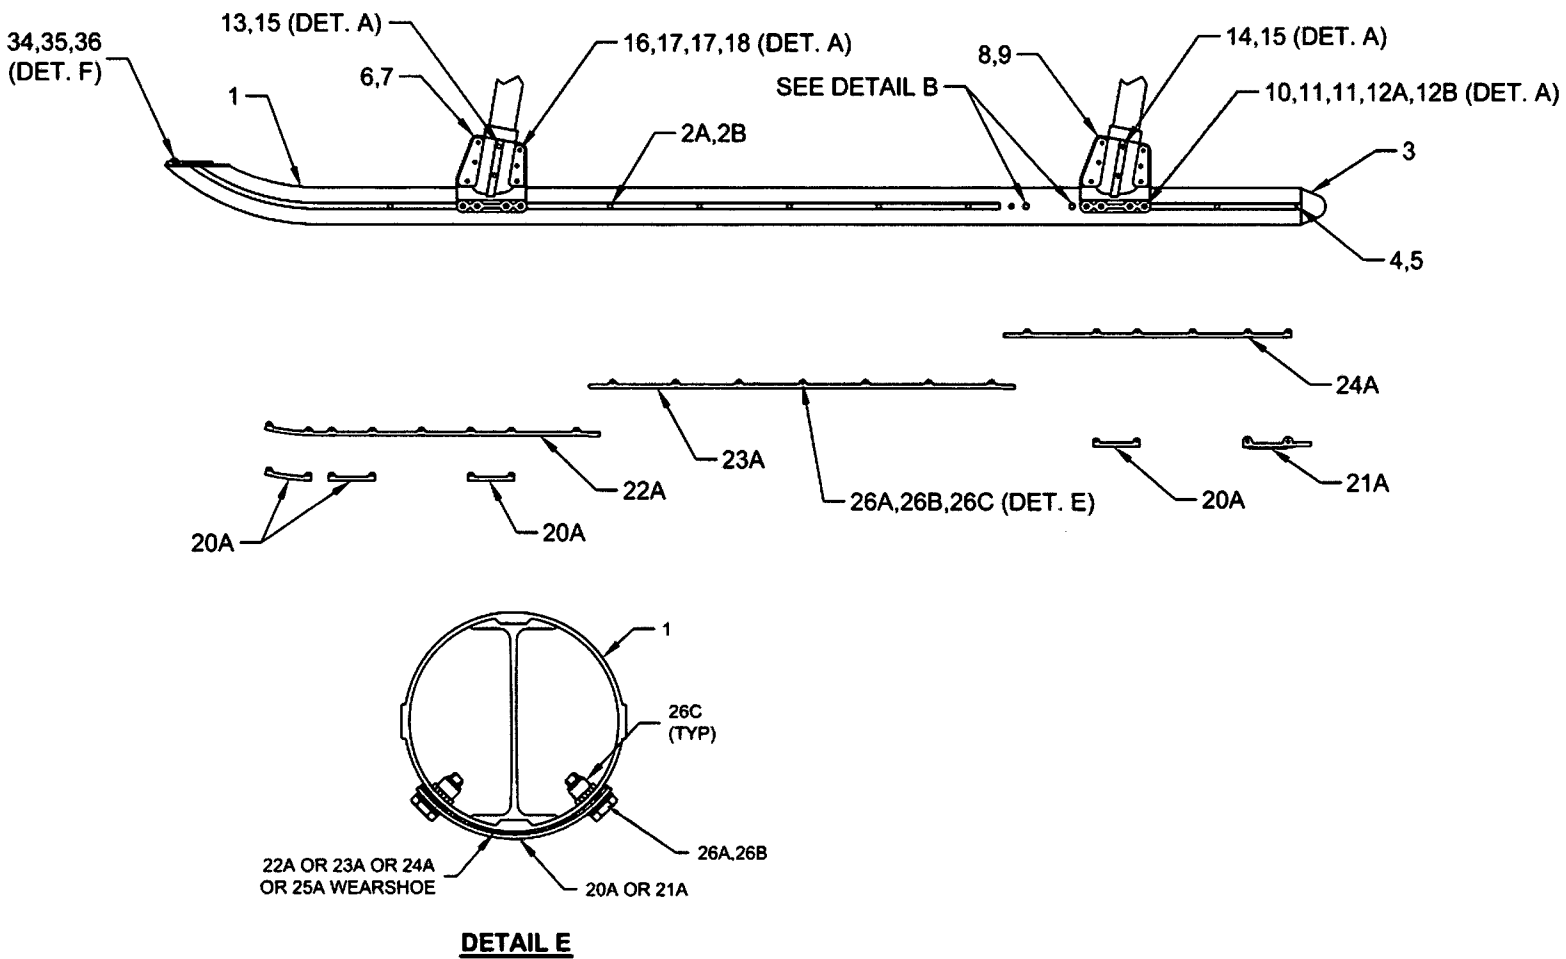

FIGURE 32-2: D206-642-111/-112/-211/-212/-213/-214 SKIDTUBE INSTALLATION
- 32.7.4 Install replacement D4956-11/-13/-15/-21/-23/-25/-31/-33/-35/-37/-39/-41 wearshoes and D3537-1/-3 wearpads using AN3C bolts or MS27039 screws as applicable beginning from the aft end of the skidtube and install towards the fwd end of the skidtube as shown in Figures 32-2, 32-4, 32-6, 32-8 and 32-10. All bolts/screws should be sealed with Sikaflex-241/-291 or Proseal 890 or AMS-S-8802 Class 'B2' sealant before installing as per Detail E. Torque bolts/screws to 15-25 in-lb (1.7-2.8 N-m).